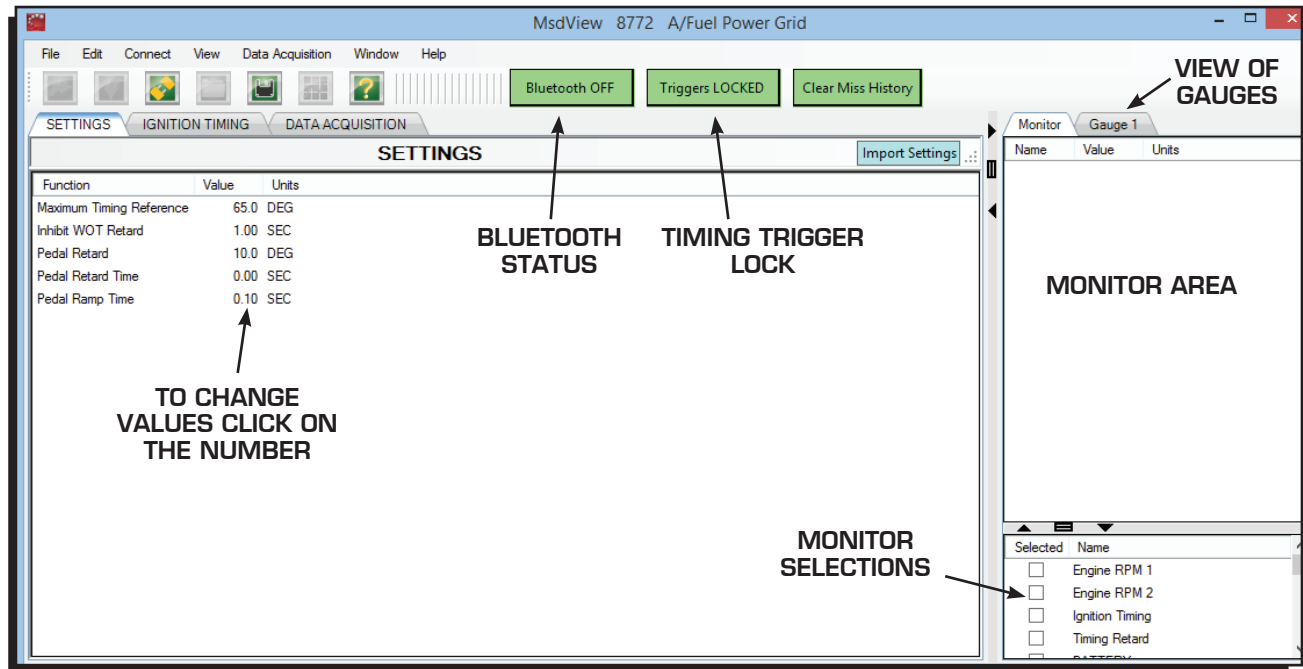

**Figure 1 Open the View Program.**
5. When the View Icon is selected, a window will open. Go to File, Open and scroll down to 8772. Double click to open the program (Figure 1).